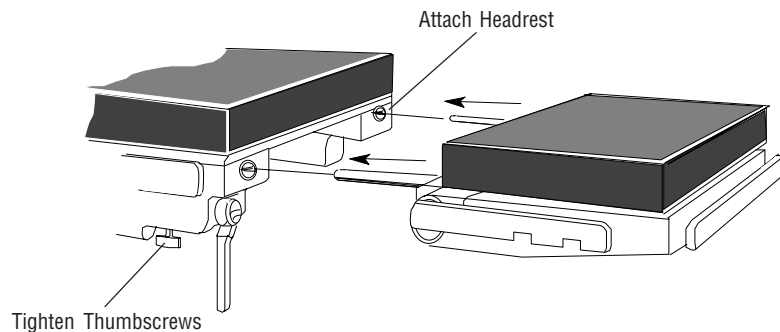

Figure 4-1. Attach Headrest
1. Determine desired patient position and attach headrest to table end to obtain this desired position (see Figure 4-1) as follows: